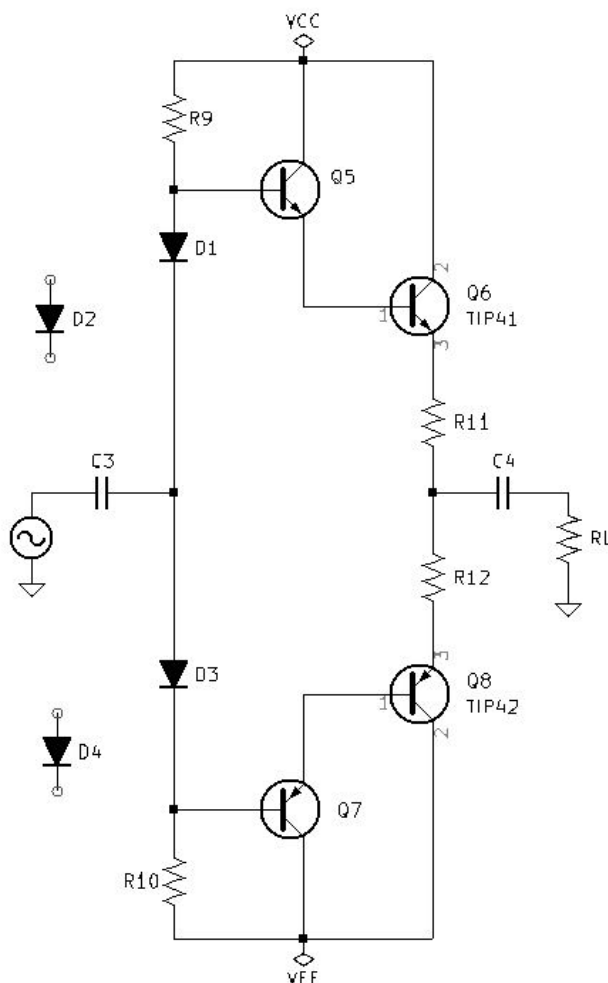

Figure 6.2: Push Pull Amplifier Cross-Over Distortion Test Circuit.
- (b) Build your calculated Push-Pull Amplifier with D2 and D4 removed from the circuit. Also, replace RL with a $10K\Omega$ resistor. See Figure 6.2 *Push Pull Amplifier Cross-Over Distortion Test Circuit*. on page 58.